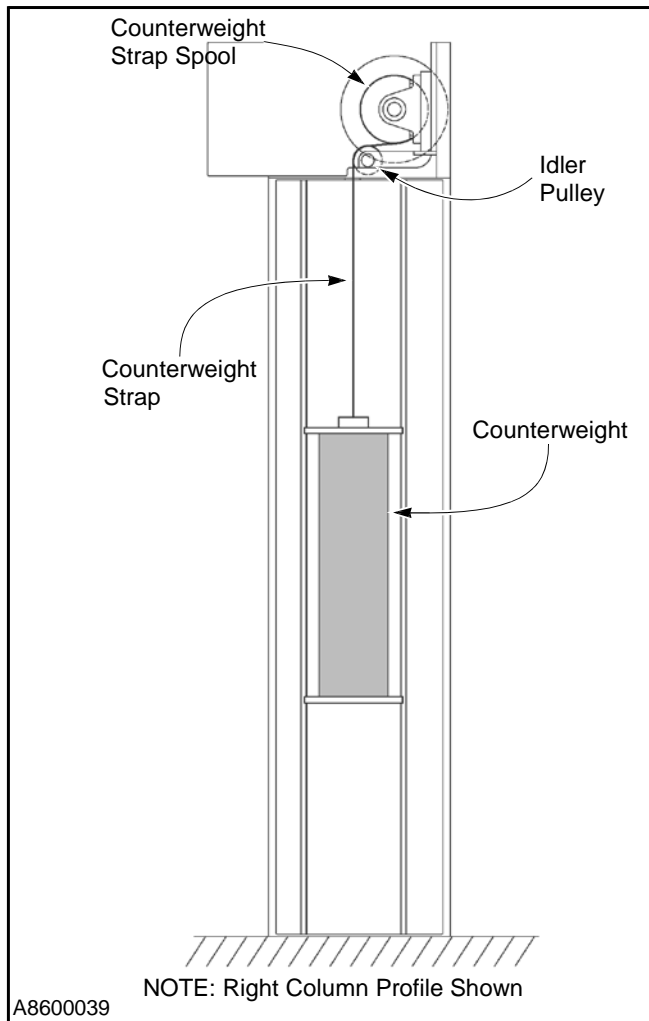

Figure 19
8. Route each strap over its associated idler pulley as shown in Figure 19.